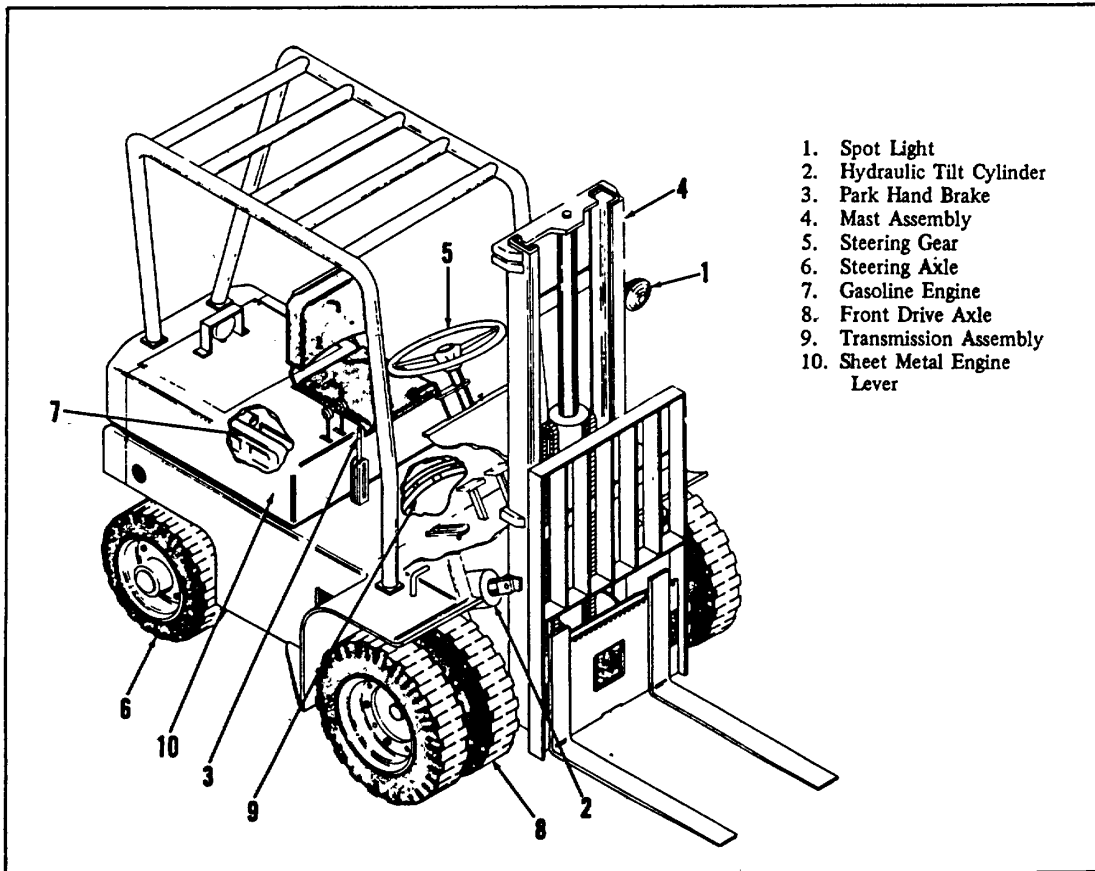

Figure 4-1. Fork Lift Truck Components
4-2. This section contains instructions for the removal and disassembly of major assemblies of the fork lift truck (see figure 4-1). Minor repair and adjustment instructions related to removal and replacement are also given to the extent such work could be performed with the tools and equipment normally available to the using facility.
5. With front wheels removed, or truck front blocked up for access, remove the two capscrews and lock washers at each bearing cap (see figure 4-1) and remove caps and bearing inserts. Remove assembly from truck.